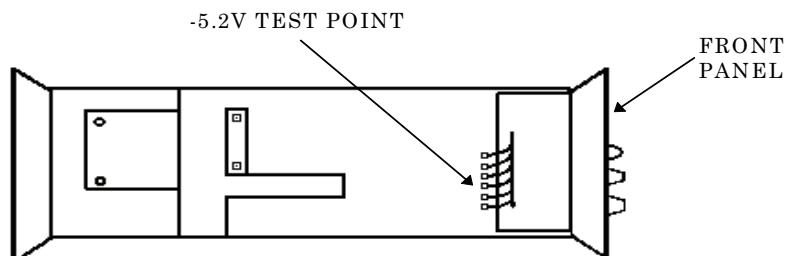

Figure 3. TD-1225A(V)1/U (Hewlett-Packard, Model 5342A/H14), TD-1225A(V)2/U (Hewlett-Packard, Model 5342A/H16) and Hewlett-Packard, Model 5343A - bottom view.
- a. Performance Check.** Connect multimeter HI to -5.2 V TEST POINT (fig. 3) and LO to chassis ground. If multimeter does not indicate between -5.1 and -5.25 V dc, perform **b** below.